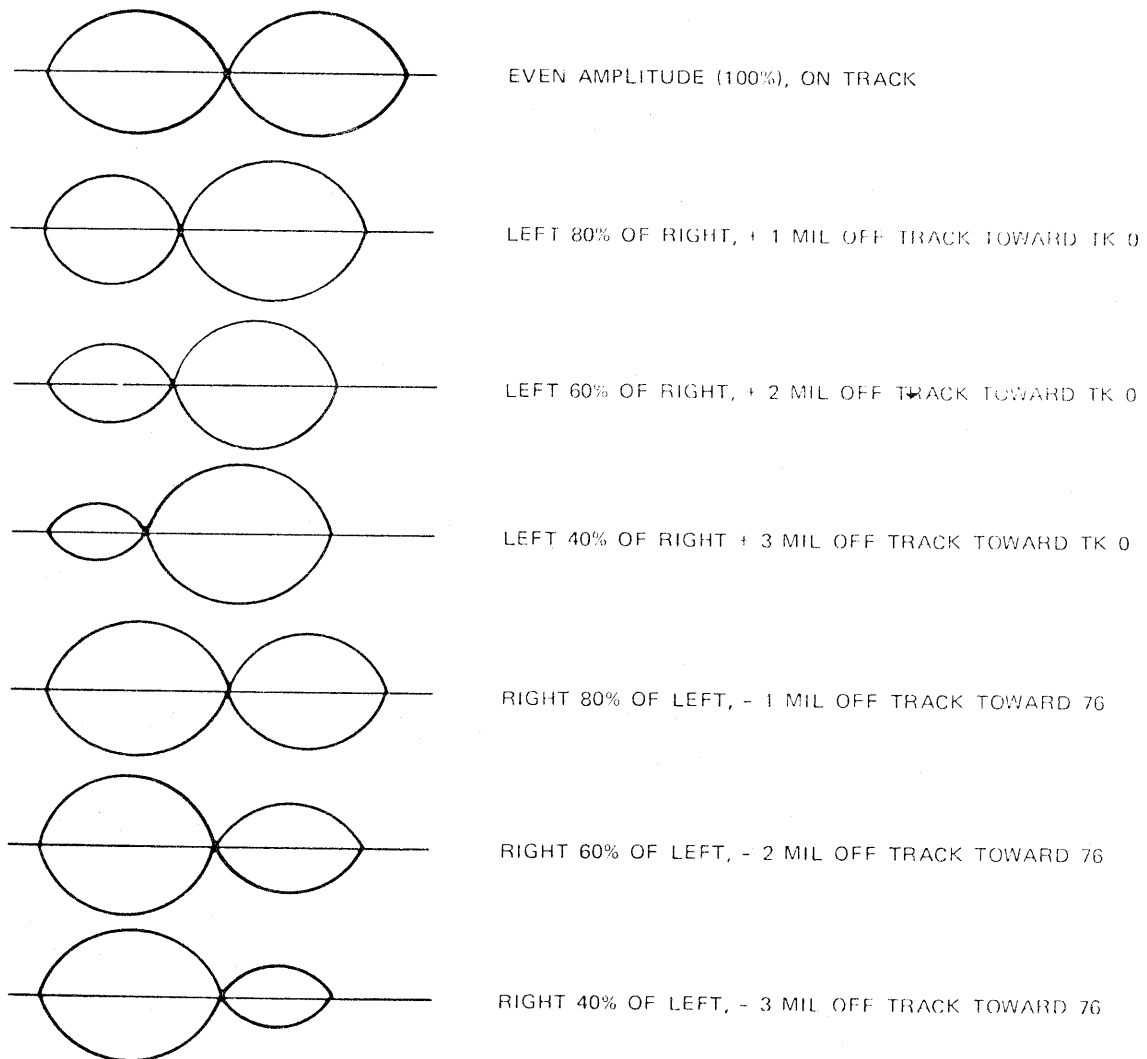

FIGURE 1 Head Radial Adjustment
- d. Two cat eyes will be displayed on the scope, they should be within 70% amplitude of each other. (figure 1)